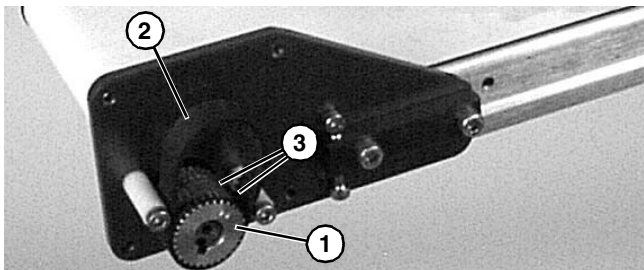

Figure 6
- Install driven pulley (**Figure 6, item 1**). Tighten two (2) set screws to 33 in-lb (3.7 Nm).
- Place timing belt (**Figure 6, item 2**) over driven pulley (**Figure 6, item 1**) and between belt flanges (**Figure 6, item 3**).